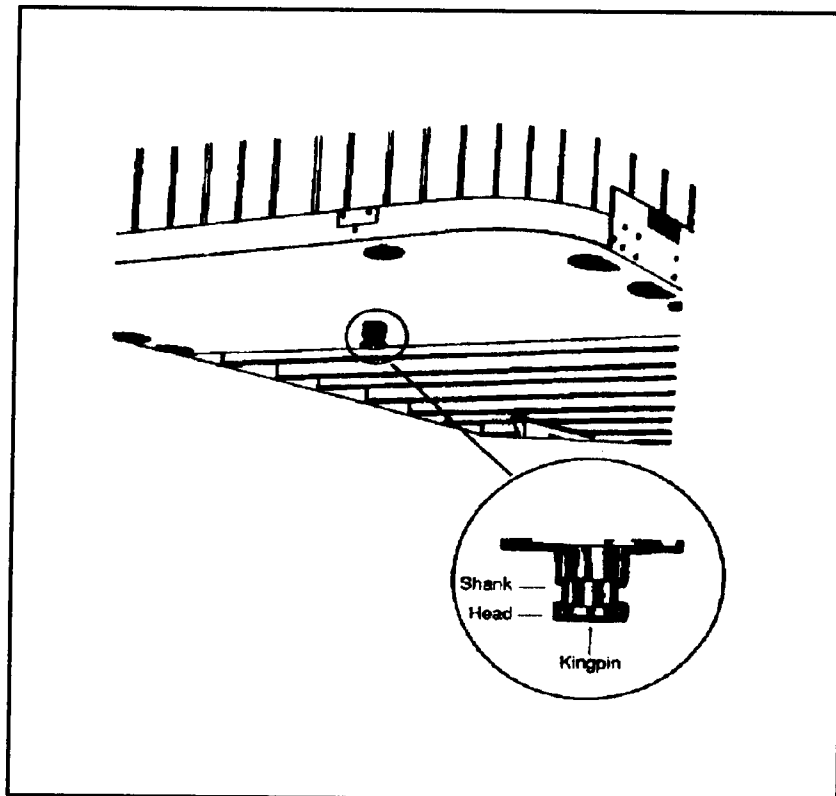

Figure 6-7. Trailer kingpin
- *Step 13* - Inspect the coupling. Use a flashlight if necessary. Be sure there is no space between the upper and lower fifth wheel. If there is space, something is wrong. (The kingpin may be on top of the closed fifth wheel jaws. The trailer would come loose very easily.) Go under the trailer. Look into the back of the fifth wheel. Be sure the fifth wheel jaws have closed around the shank of the kingpin (Figure 6-7, page 6-10). Be sure the locking lever is in the lock position. Be sure the safety catch is in position over the locking lever. (On some fifth wheels, you must put the catch in place by hand.) If the coupling is not right, do not drive the coupled unit. Get it fixed.